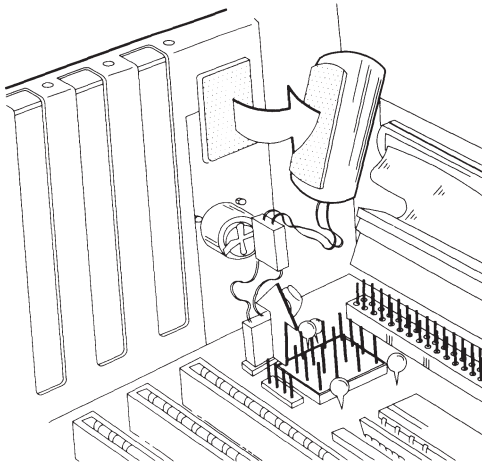

Figure 7-17. Removing the Battery.
4. Remove the battery from the system unit (Figure 7-17).